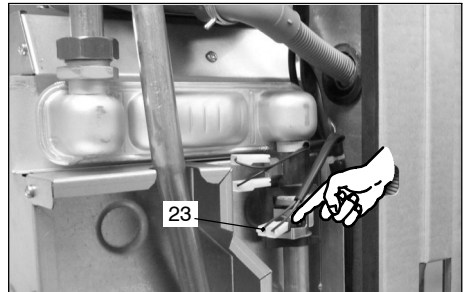

Fig. 8.3
- 9 Disconnect the electrical connectors of the C.h. temperature probe NTC 23 in Fig. 8.3
- 11 Connect the the elctrical connectors of the C.h. temperature probe NTC 23 in Fig. 8.3